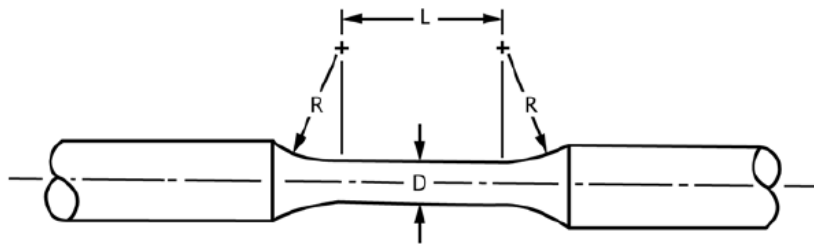

Figure 1
2. The specimens shall be machined according to figure 1 and table 1.